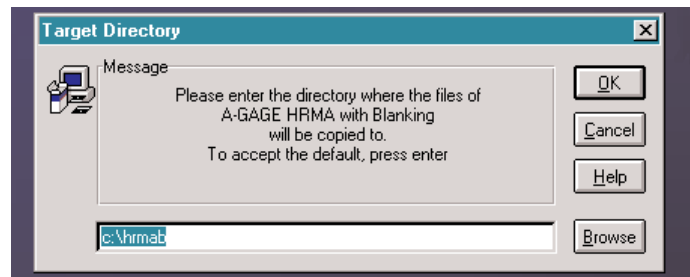

Figure 4-3. MINI-ARRAY software installation: Target Directory screen
4. A Target Directory dialog box will appear (Figure 4-3); the default directory is **c:\HRMAB**. Select **OK** to enter the default directory, or enter an alternate directory and then select **OK**.